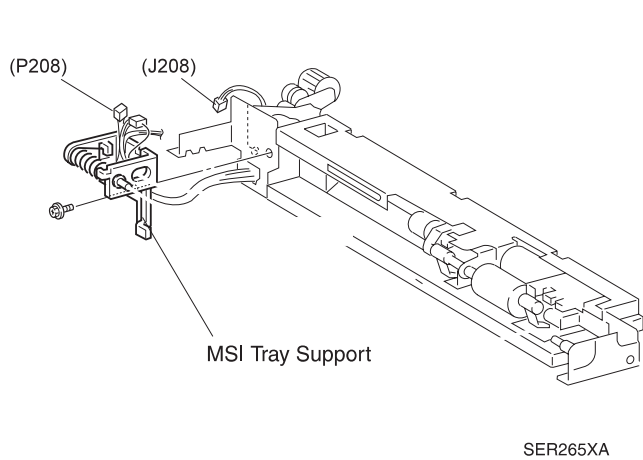

Figure 1
2. Remove the screw securing the MSI Tray Support (PL4.1.9) to the Feeder Assembly, and pull the Support away from the Assembly (Figure 1).